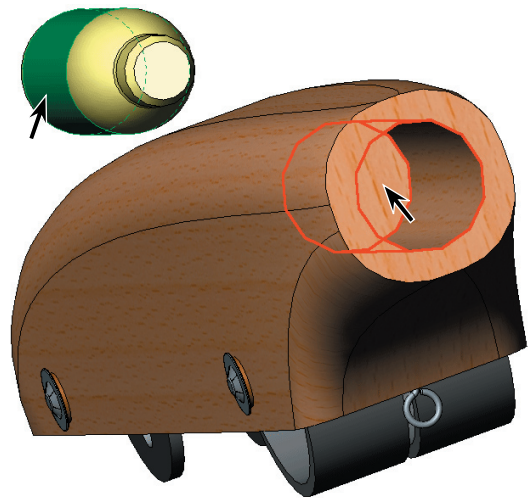

Fig. 24
Step 3. Click **cylindrical face of cartridge** and **cylindrical face cartridge hole**, Fig. 24.